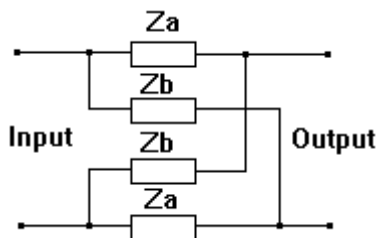
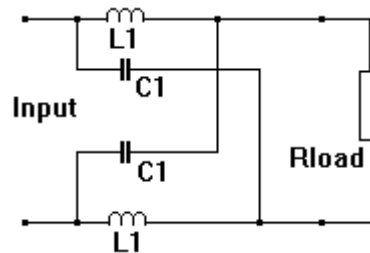
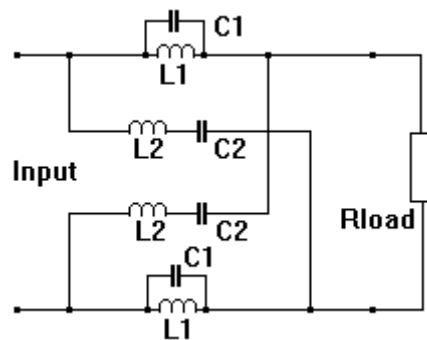
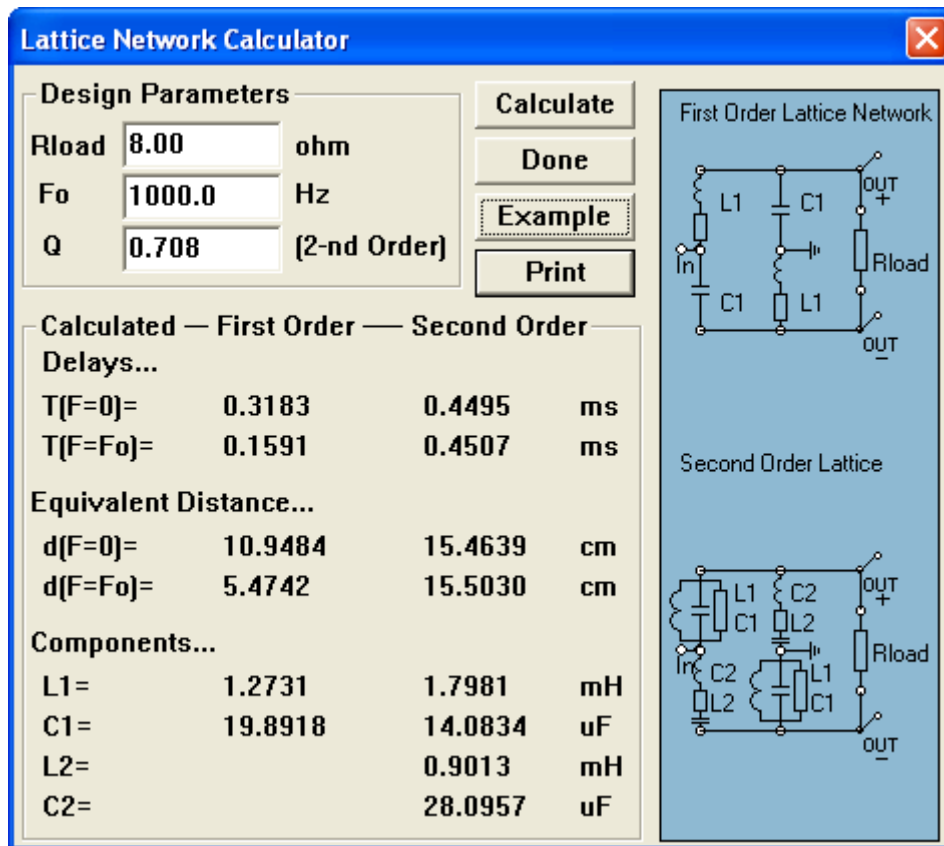

Fig 8.29 Lattice Network (Time Delay Filter).
Fig 8.30 First order Lattice Network.
Fig 8.31 Second order Lattice Network
Figure 8.32. Lattice network calculator.
Compensation networks considered in this section have constant amplitude response and variable phase responses. They are commonly termed "all-pass" filters or Lattice Filters. One method of passively realizing all-pass function uses symmetrical lattices. A very useful representative of this family of filters is shown on Fig 8.29. It depicts a general topology of the symmetrical lattice filter. Please note, that both load terminals are floating - they are not connected to the ground terminal. A practical realization of the first order lattice network is given on Fig 8.30 and second order lattice network is shown on Fig 8.31.
SoundEasy offers a built-in Lattice Network Calculator (LNC) - see Fig 8.32. This simple LNC allows the user to estimate attainable time delay offered by the first and second order lattices at a desired frequency (F_o), for a given load resistance (R_{load}). The LNC also calculates the L and C components of the first and second order lattice networks, such as the one shown on Fig 8.30 and Fig 8.31. The resulting components will be given for a constant resistance lattice. Larger delays can be obtained by cascading first or second order networks, so that their individual time delays can be summed. Time delay introduced by the equalizer (Lattice Network) will be added to the existing (if any) delay in the circuit. The first order all-pass network introduces maximum delay at $F_o = 0.0$ Hz and the delay rolls-off with frequency. For the second order network, there are two parameters, that can be manipulated by the designer in order to obtain the required total delay: (1) Q-factor and (2) F_o . For Q-factors less than 0.6, the delay, introduced by the second order all-pass network tapers off with frequency. For Q-factors greater than 1.0, the second order lattice network allows the designer to create concentration of delay around a frequency, at which there is a 180 deg phase shift (F_o). For Q-factors greater than 2, the delay exhibits a pronounced peak around the F_o , with slopes of -12dB/oct. The LNC is activated from the main menu by selecting (1) "Crossover Tools" and then (2) "Lattice Network" options. The first order lattice network requires load resistance (R_{load}) and "cut-off" frequency to be entered on the calculator's data entry fields. The second order network requires additional Q-factor to be keyed-in.